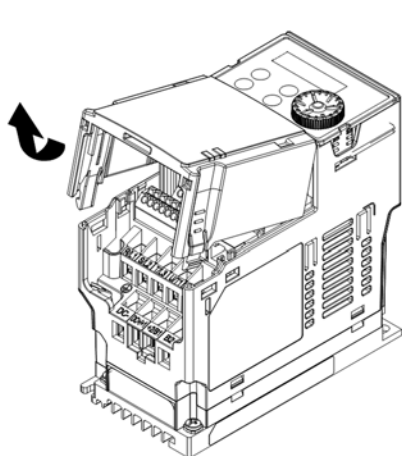

Figure 8-15
1. As shown in the Figure 8-15, shut down the power of the motor drive, and then remove the front cover.